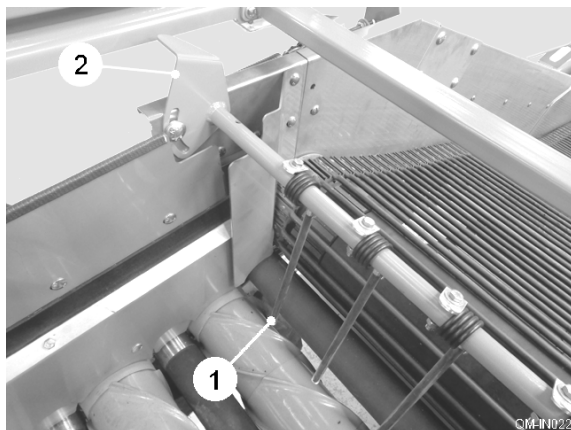

Fig. 14
A row of haulm fingers (item 1, fig. 14) are mounted above the haulm extraction roller to assist in guiding the haulm into the extraction point. The finger assembly is adjustable for angle by moving the lever (item 2, fig. 14) on the LH side of the machine. When the lever is in the forward position the haulm fingers are out of work. Moving the lever rearwards lowers the fingers towards the crop and haulm passing over the web. Adjustment should be made such that the fingers are lowered sufficiently to guide the haulm without interfering with the crop passing by them.